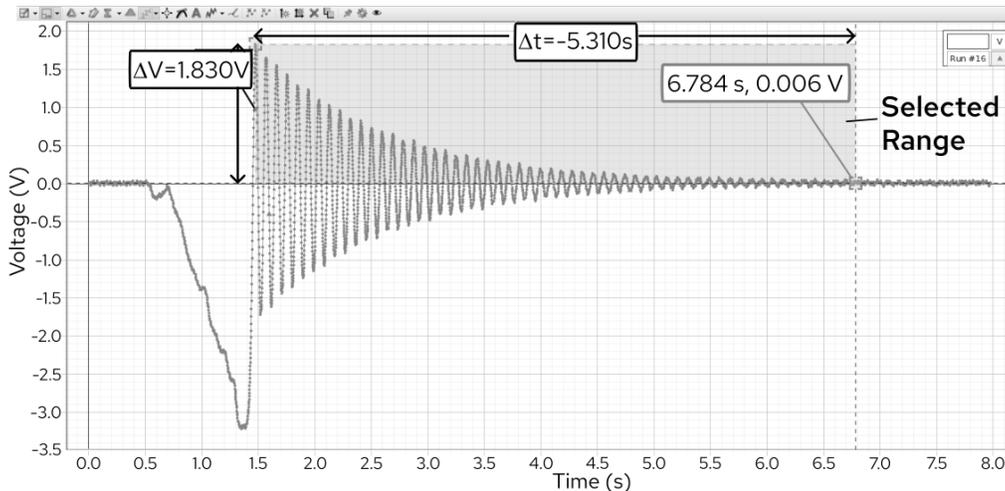

Figure 9. Sample recording with magnet near the blade.
- The time difference as well as the voltage difference show up in the middle of the guide lines created by the dragging action (Fig. 9).
- Use the Show Delta Tool to measure the original amplitude (1.830 V in Fig. 9).
- Calculate half the original amplitude, and use this to determine the damping time  $\tau$ . In Fig. 9, the initial amplitude is 1.830 V, so you would find an amplitude of  $\pm 0.915$  V to measure  $\tau$ .